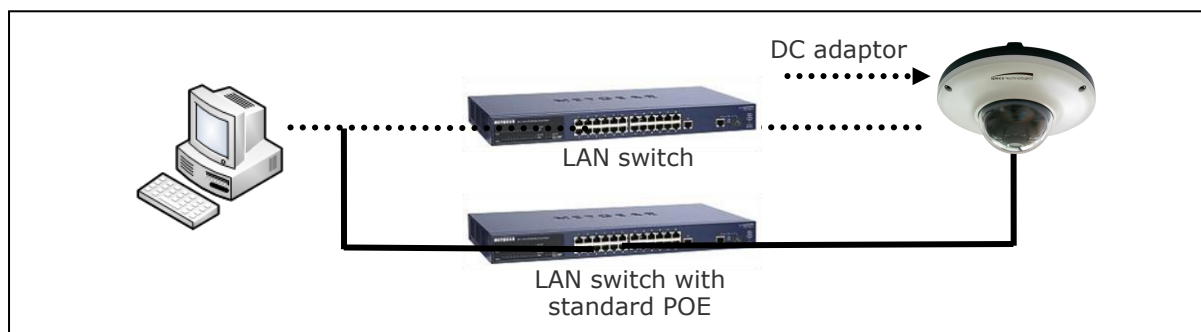

Figure 4-1. Power and network connection
2. In the case of using PoE, connect the PC and O2MD1 to the network using one of the following ways. If your LAN Switch does not support standard PoE, connect O2MD1 as shown in dotted line in Figure 4-1. The DC power is applied through DC adapter.